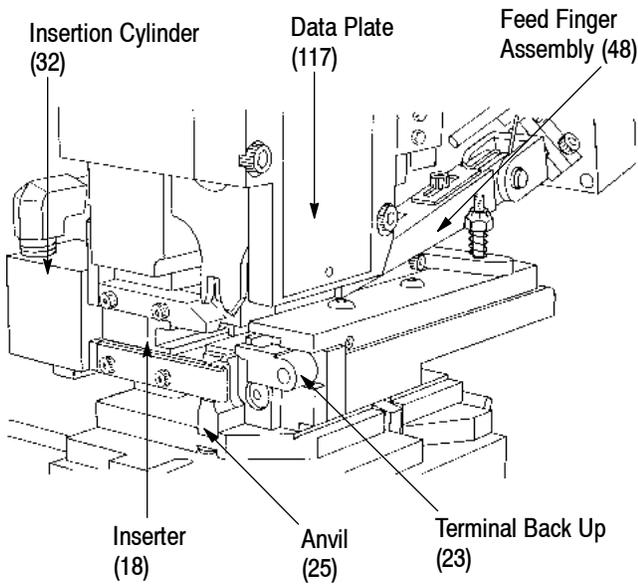

Figure 5
The lower tooling includes shear plates, the inserter, the anvil, stripper stop block, and the terminal back up. See Figure 5.
Adjust the height of the terminal backup until the base of the pod clears the backup tab (see Figure 5). The distance between the anvil and the terminal backup tab $1.27 \text{ mm} \pm 0.127 \text{ mm}$ [$.050 \text{ in.} \pm .005 \text{ in.}$] should be measured with a feeler gage.
1. Refer to the data plate on the applicator housing (refer to Figure 5), and select the pad letter (A, B, C, or D) for the wire size to be used.